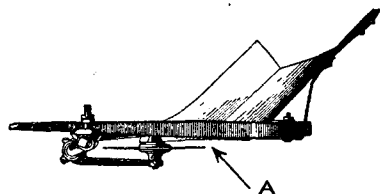
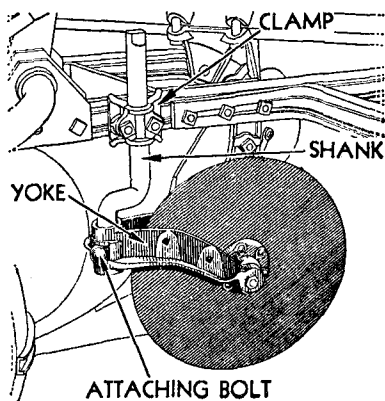

FIGURE 27—LATERAL ADJUSTMENT OF ROLLING COULTER
FIGURE 28—ROLLING COULTER
F. Rolling Coulters.—For all conditions the coultter must be set so that the blade will run from 1/2" to 5/8" to the left of the landside of the share (Figure 27). This adjustment is made by loosening the beam clamp bolts and turning shank in clamp (Figure 28).